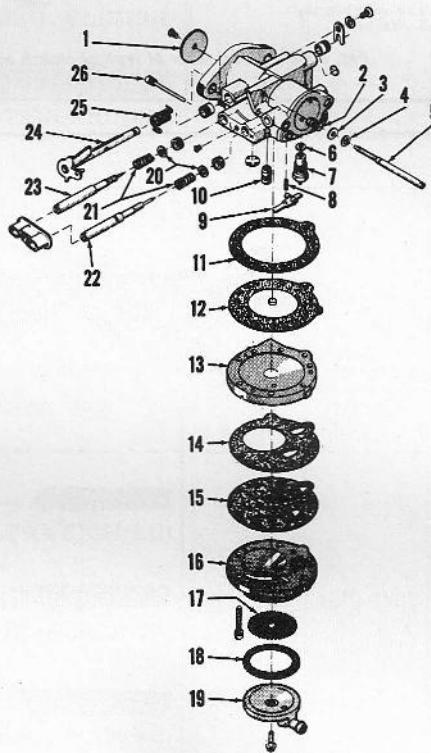
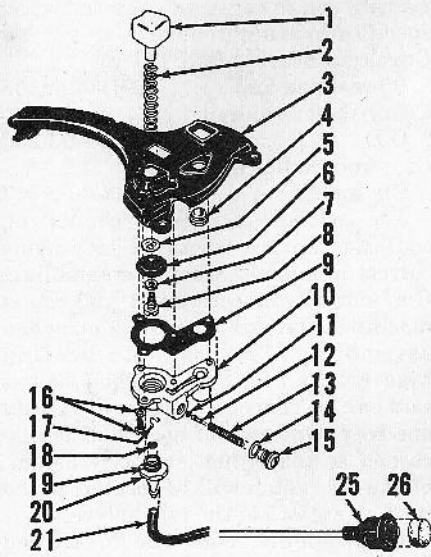

Fig. PR1-2—Exploded view of Tillotson HL model carburetor used on 450, 550 and NU17 models.
Fig. PR1-4-Exploded view of fuel primer pump and associated parts used on most models.
CARBURETOR. A Brown 1-PA carburetor (Fig. PR1-1) was originally used on 400, 400A and 410 models. The carburetor used on the earliest of these models was equipped with a choke as shown (28 thru 31); however, later models use a fuel primer pump (Fig. PR1-4) and the choke operating parts are removed. A Tillotson HL-108A carburetor (Fig. PR1-2) and a fuel primer pump (Fig.
On Brown carburetors, normal setting for the high speed needle (22—Fig. PR1-1) is 3/4 to 1 turn open and 1 to 1 1/2 turns open for the idle mixture needle (23). On Tillotson carburetors, normal setting is 3/4 turn open for both the high speed needle (22—Fig. PR1-2) and the idle mixture needle (23). On all models, clockwise rotation of the adjusting needles will lean the mixture.
The fuel primer pump (Fig. PR1-4) is located on the control panel of models so equipped. Depressing primer button (1) should squirt a small amount of fuel into the carburetor inlet for starting. Inspect the check valves (12 & 18), diaphragm (6) and filter (26) if fuel primer pump does not operate.
Fig. PR1-1—Exploded view of the Brown diaphragm carburetor used on early models. Springs (27) are located above both check valves. Choke parts (28-31) are sometimes removed when fuel primer pump (Fig. PR1-4) is installed. Refer to Fig. PR1-2 for legend except the following.